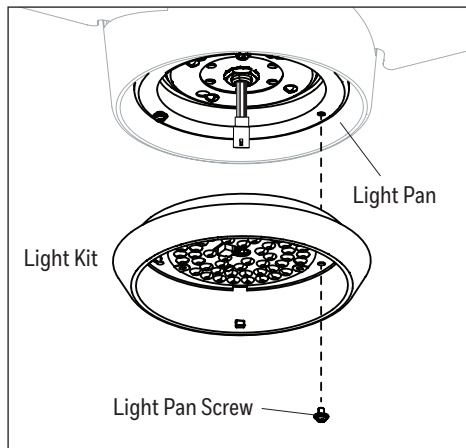

Figure 5.9
9. Remove one of the three light pan screws from the light pan and loosen the other two but do not remove. Lift the two keyhole slots in the light kit over the two loosened light pan screws and turn in a clockwise direction. Then, use the previously removed light pan screw to secure the light kit to the light pan. Tighten all screws (Figure 5.9). **Note:** Do not connect 3-pin connectors.